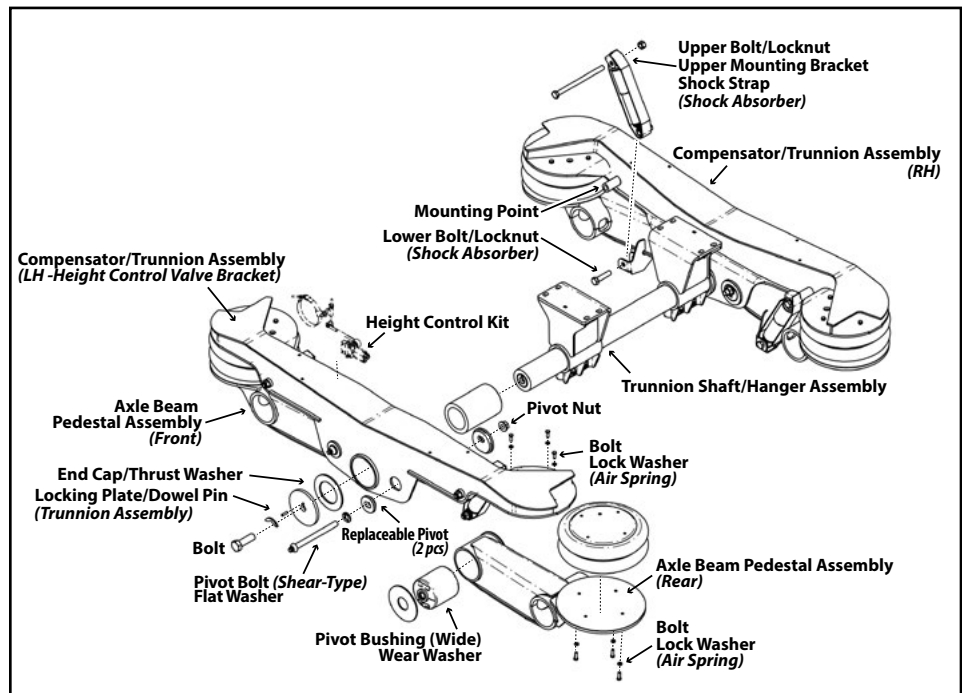

Figure 9. Trunnion and pivot connections hardware (254 (wide) bushing version shown)
1. Loosen pivot nut (Figure 9).